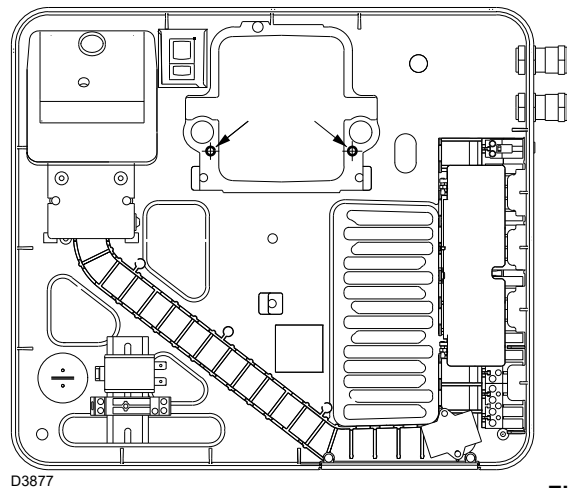
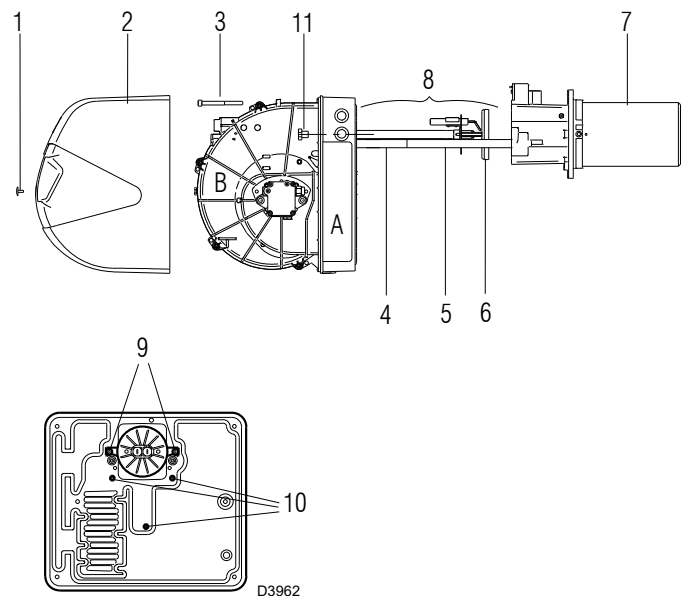

Fig. 31
Fig. 33
If it is necessary to maintain the electrical panel A)(Fig. 33) it is possible just to remove the fan assembly B)(Fig. 33) to get better access to the electrical components.
With the burner open as in Fig. 33, disconnect the electrode cables and remove the head unit 8)(Fig. 33) by undoing the two screws 9)(Fig. 33).
Disconnect the cables relative to the fan motor, remove the 3 screws 10)(Fig. 33) on the protective sheet and the two screws 11)(Fig. 33) and slide out the fan assembly B)(Fig. 33) from the guides 4) - 5)(Fig. 33).
Finally it is possible to use 2 of the 3 screws 10)(Fig. 33) to fix the electrical panel to the pipe coupling in the points indicated on Fig. 31, and then perform the maintenance operations.
- Remove screw 1)(Fig. 33) and withdraw the casing 2);